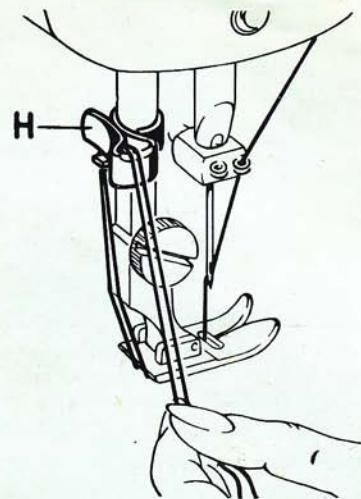

Fig. 17
- c) Keeping threads taut, draw them through the thread cutter « H » (Fig. 17) cut them and remove the fabric.